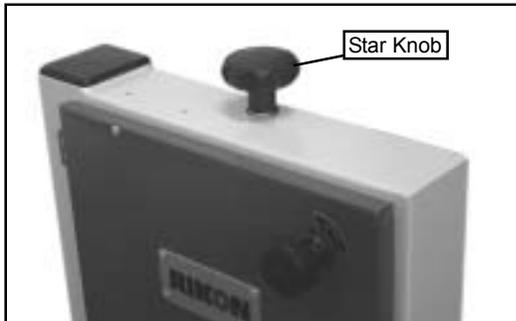

Fig.3
- Place star knob on to tension rod (See Fig. 3).